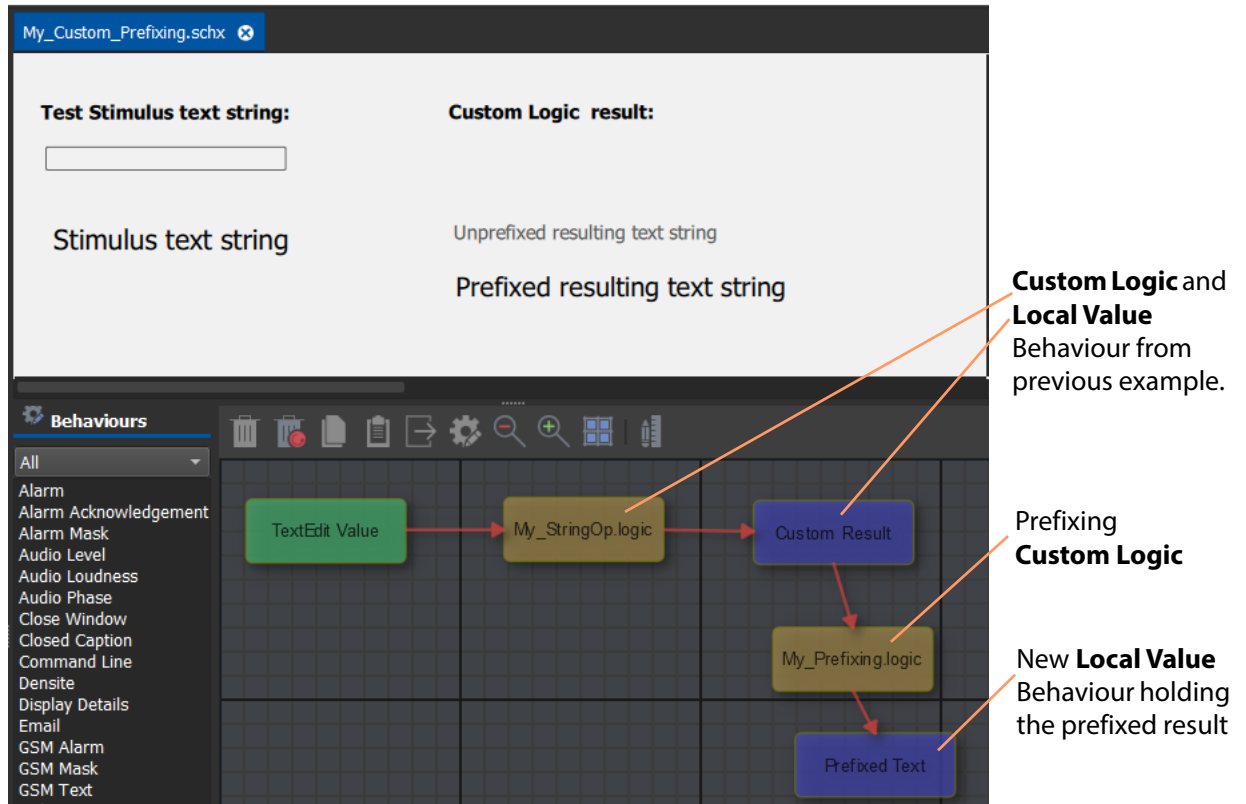

Fig. 10-16: Prefixing Custom Logic Instantiated
- 6 The 'Behaviour/Bindings' graphic editor now shows the previous example connected to this prefixing **Custom Logic**, and the result is connected to a **Local Value**. See Figure 10-16.